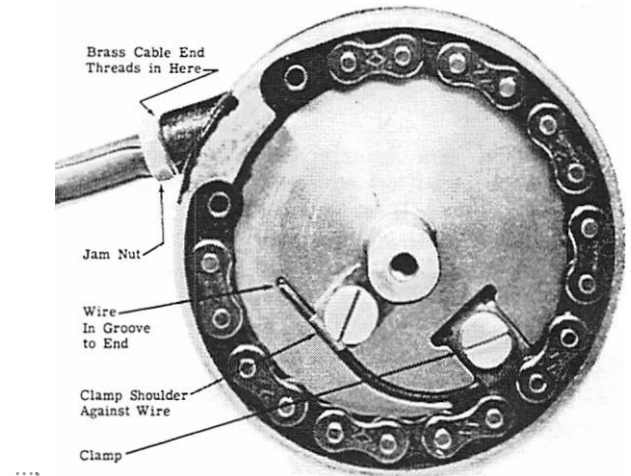

Figure 2. Engine End Housing with Cover Liff
3. Remove 2 clamp screws and clamps from drive pulley. (Figure 2)
4. Thread brass end of control cable into housing and thread jam nut against housing to secure cable into position. (Figure 2) Be sure cable is threaded completely in.